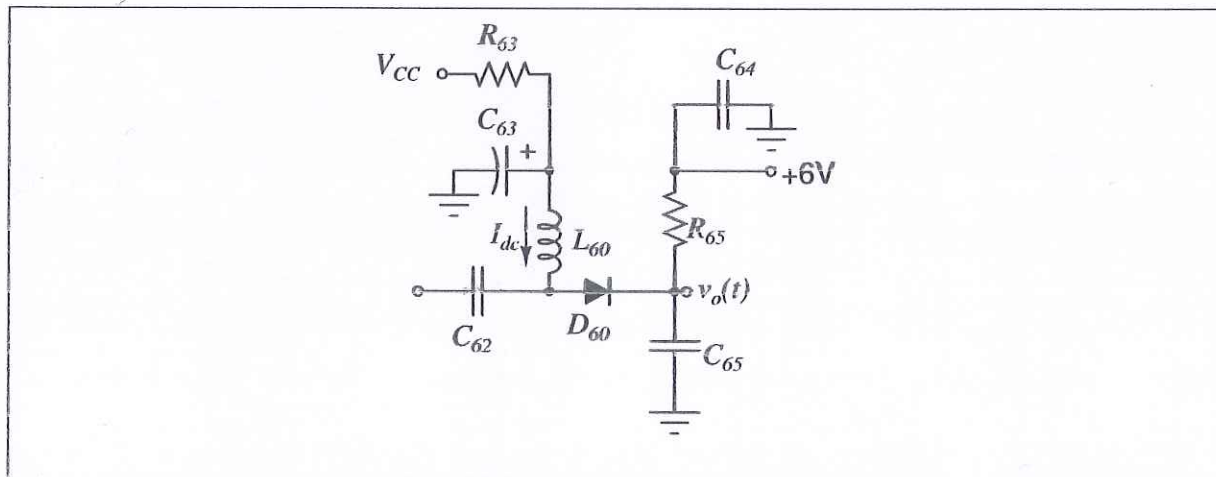

Figure 1: TRC-11 envelope detector circuit.
1. The envelope detector circuit of TRC-11 is given in Fig. 1. It serves to recover the AM modulation signal present on the RF signal. It does so by rectifying the positive side of the AM modulated signal. A low-pass circuit composed of C65 and R65 gets rid of the RF signal frequency.
- A PIN diode acts like an RF resistance whose value is determined by the DC current flowing through it. It is inserted between the first and second IF amplifiers when the jumper JP70 is shorted. If the DC current through it increases, its resistance reduces and hence attenuates the signal going to the second IF amplifier as shown in Fig. 1. Refer to the datasheet of the PIN diode on page 375. Find the reverse breakdown voltage, V_R , and the series RF resistance, R_S , and the forward voltage, V_F of the PIN diode when 1 mA DC flows through it.